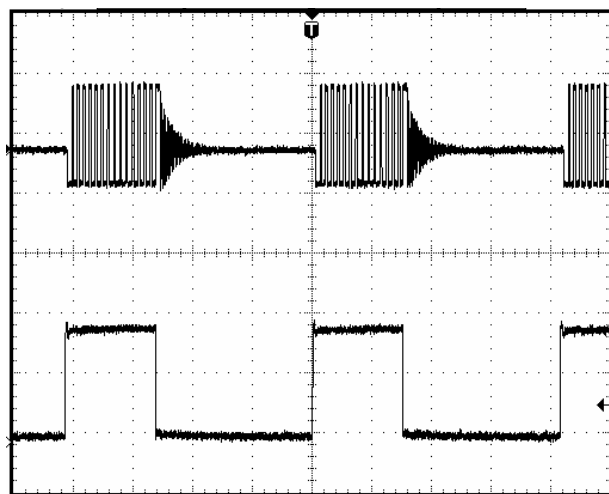

Figure 9. PWM Dimming Pulses
Figure 9 shows the waveforms during PWM dimming pulses. The DRC duty cycle is 75% and therefore the dimming ratio (DR) is 37%. Ch1 is the switch node. Ch2 is the sum of all six ILED channels. Figure 9 shows the boost converter is OFF (not switching) between PWM dimming pulses.
For direct dimming control connect DFS to V_{DD} and use the MODE pin for the dimming pulse. This method will bypass the internal dimming control and allows for dimming control by the external PWM Dimming pulse (see Figure 9).